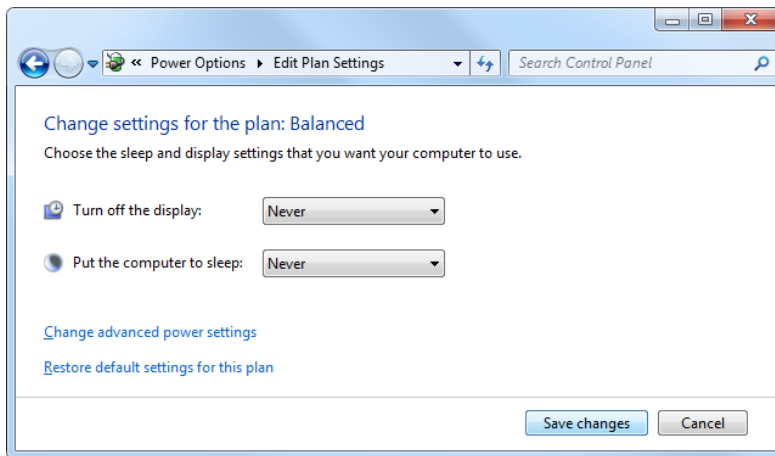

Figure 1-8 Configuring power options for Windows 7
- b) In the pop-up menu that appears, set **Turn off the display** and **Put the computer to sleep** both to **Never**. (see Figure 1-8 on page 30).